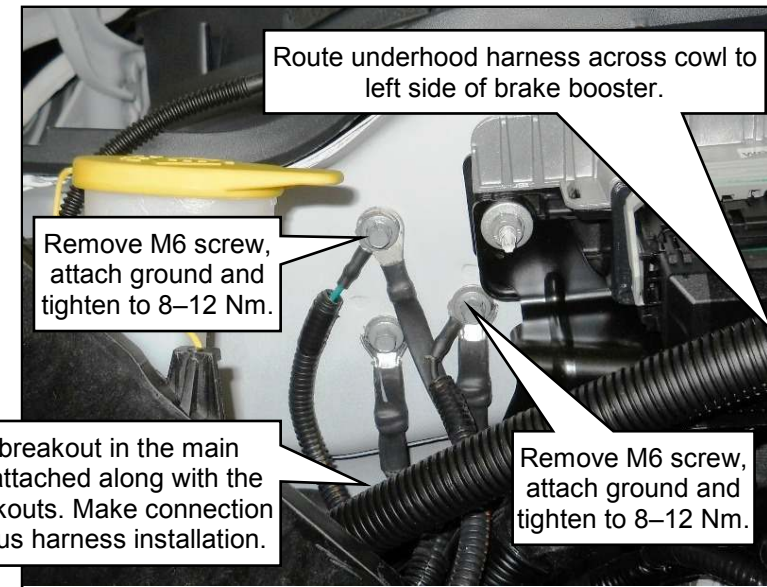

Figure 7.1
8. Attach the two ground connections (breakout from main harness with CAN bus harness connection) to the OEM ground attachments next to the PCM. They are the fuel pump and SRM grounds. Connect the underhood harness ground eyelets to the existing Ford ground location on right side next to the PCM. **Figure 7.1.**